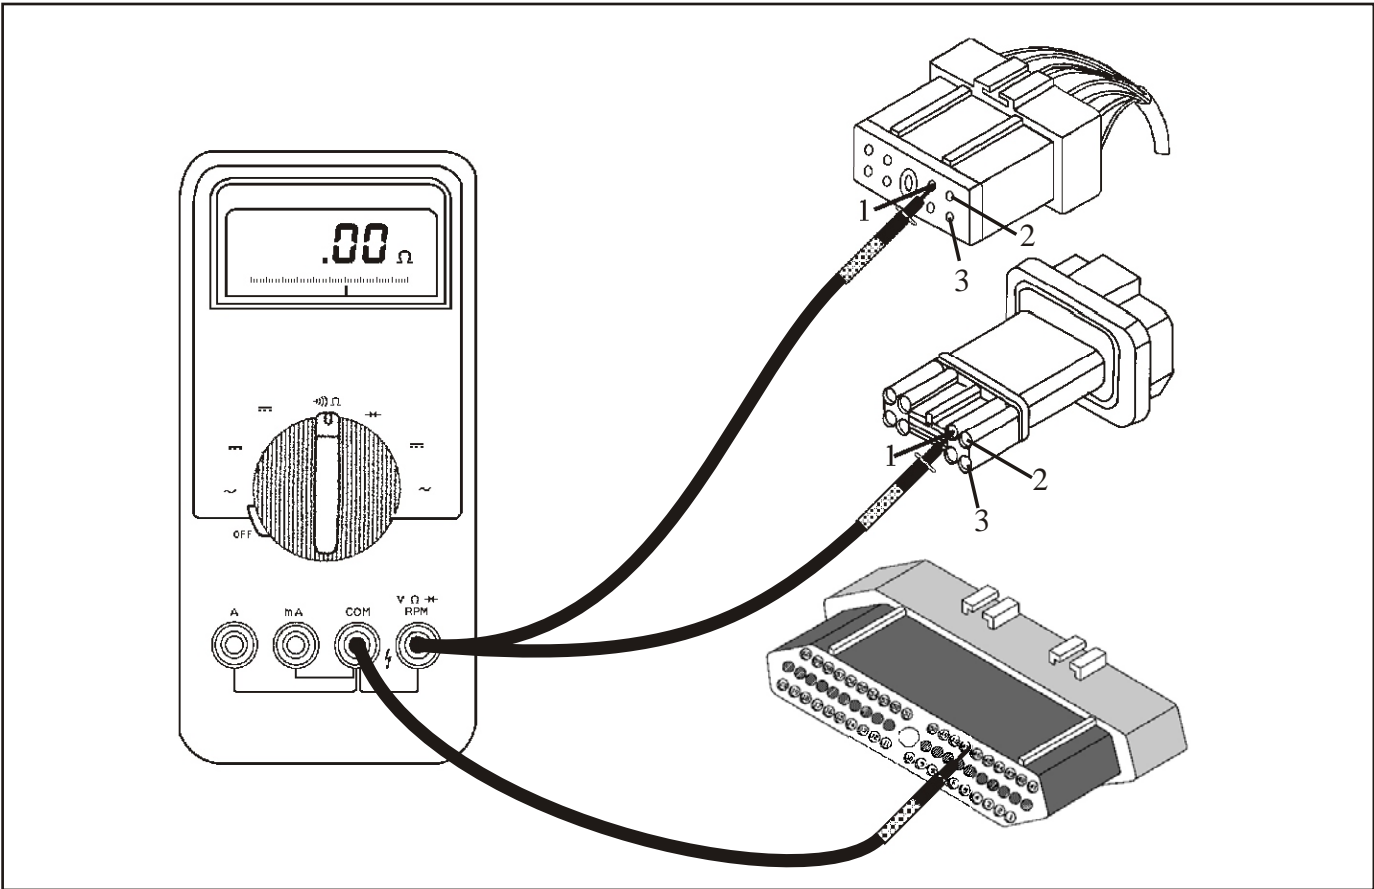

Figure 31
- A continuity check should be made across the following appropriate wire from the solenoid connector to the TCM connector (See Figure 31):